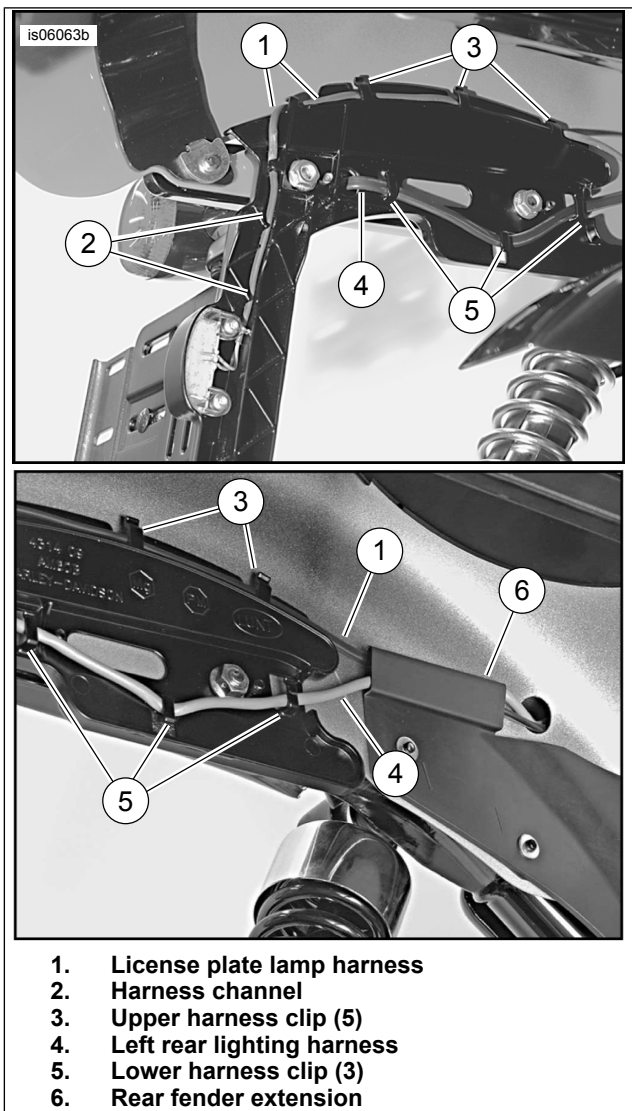
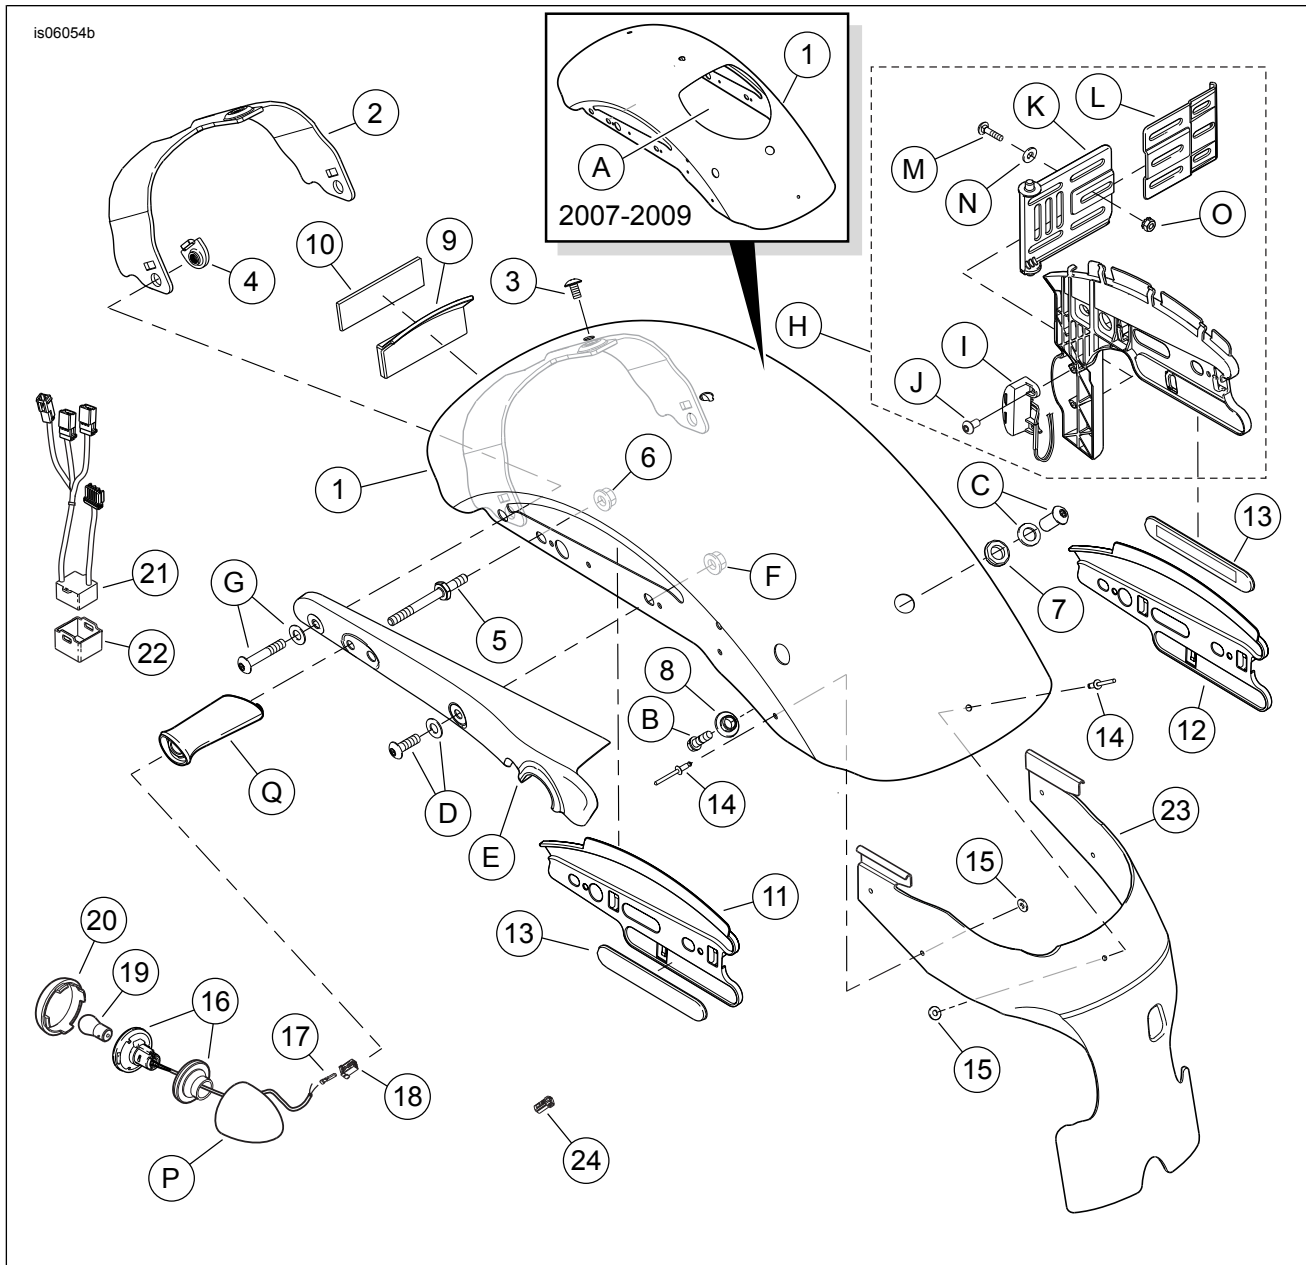

Figure 3. Rear Lamp Harness Routing
Figure 6. Service Parts: Sportster Chopped Fender Installation Kits
3. Insert the blade of a small screwdriver into the slot at the bottom of the turn signal lamp lens (2), and twist to unsnap the lens from the housing (1). To avoid breakage, push the bulb (3) in and rotate counterclockwise to remove.
4. Separate the turn signal reflector (5) from the lamp housing using either or both of these methods as necessary:
- a. Insert the blade of a small screwdriver between the outer edge of the rubber gasket (4) and the inside of the housing. Gently pry up the reflector (5) until free.
- b. Insert a thin-blade screwdriver or similar tool through the threaded hole (9) in the housing (1), and gently push the reflector (5) and rubber gasket (4) free of the housing.
5. Guide the wires out of the unthreaded hole (8) in the lamp housing. The turn signal stalk, gasket, reflector, bulb, amber lens and wiring can be discarded.
6. See Figure 6. Obtain a reflector/bulb socket assembly (16), double-filament bulb (19) and red lens (20) from the kit.
1. See Figure 6. Obtain the **new**, painted chopped rear fender (1), five pop rivets (14) and five washers (15) and the rear fender extension (23) from the kit. Line up the holes in the extension with the holes in the fender. Secure the extension to the fender with the pop rivets and washers. Line up the holes in the extension and wire troughs with the holes in the fender. Secure the extension and troughs to the fender with the pop rivets and washers.
3. **ALL models:** Obtain the **new** license plate bracket assembly (Item I, purchased separately), or left side reflector mounting bracket (12) if installing accessory side mount license plate kit 60947-10, right-side reflector mounting bracket (11), rear fender brace (2), Phillips-head screw (3), two fender clips (4), two flange nuts (6), grommet (7) and spacer (8) from the kit, and the OE fender mounting hardware removed earlier.
4. Install the grommet (7) into the seat mounting hole in the fender.
5. Place the **new** spacer (8) onto the threads of the OE hex head seat mounting bolt (B). With an assistant holding the new fender in place between the fender supports, insert the bolt, from the underside, through the fender grommet and the frame tab. Place the OE washer and seat post (C) onto the screw threads, and tighten finger tight at this time.
6. Position the right-side reflector mounting bracket (11) against the inside of the fender. Line up the holes in the bracket with the holes in the fender. Feed the right-side tail/stop/turn signal lamp wiring through the holes in the fender and reflector mounting bracket.
7. Insert an OE 1.38 inch (35 mm) screw and washer (D) through the forward mounting hole in the support cover (E), the fender support, the mounting hole in the rear fender and the mating slot in the reflector mounting bracket. Install an OE flange nut (F) onto the screw threads, but do not fully tighten at this time.
8. Install a **new** flange nut (6) from the kit onto the tail/stop/turn signal stalk (5) screw threads, but do not fully tighten.
9. Position either the license plate bracket assembly (H) or left side reflector mounting bracket (12) if installing accessory side mount license plate kit 60947-10, against the inside of the fender on the left side. Line up the holes in the bracket with the holes in the fender. Feed the left-side tail/stop/turn signal lamp wiring through the holes in the fender and license plate bracket assembly.
14. See Figure 6. Tighten all fender mounting hardware in the following sequence:
- a. Tighten the screw (B) and seat post (C) to 10.9–17.6 N·m (96–156 **in-lbs**).
- b. Tighten the forward (D) and rearmost (G) fender support screws on both sides of the fender to 14.9–24.4 N·m (132–216 **in-lbs**).
- c. Tighten the rear lamp stalk flange nuts (6) to 14.9–24.4 N·m (132–216 **in-lbs**).
- d. Tighten the rear fender brace screw (3) to 14.9–24.4 N·m (132–216 **in-lbs**).
15. See Figure 3 if installing side mount license plate 60318-07. Disregard if installing 60947-10. Feed the license plate lamp harness (1) up through the harness channel (2). Insert the harness into the upper license plate bracket harness clips (3) and the wire trough (6) above the rear fender extension.
17. **ALL models:** See Figure 6. Obtain the reflector mounting block (9) and rear reflector (10) from the kit
3. See Figure 3. Route the tail/stop/turn signal wire harnesses (4) through the lower harness clips (5) and the wire troughs above the rear fender extension, then over to the tail lamp converter module connectors [18B] and [19B]. Cut the unterminated wires and tubing to allow sufficient length to make the connections.
4. Obtain six terminals (17) and two socket housings (18) from the kit.